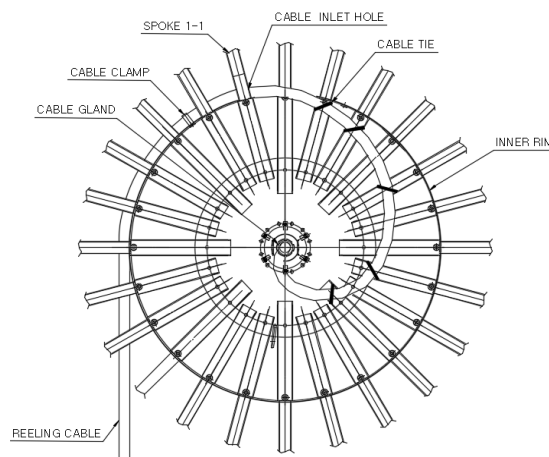

Figure 3. Connection of Reeling Cable
- With seeing the section drawing of FiG. 3 Magnet Coupling, doing the work as follows
- 1) Detach the safety cover (1) from magnet coupler.
- 2) Unfasten the set bolt (2) of spline joint.
- 3) Unfasten the set bolts (3) of adjusting nut (4).
- 4) The air gap may be adjusted by 1/4 turn at a time by using of the opposite 2 holes of holes for gap adjusting nut (4) with adjusting tool.